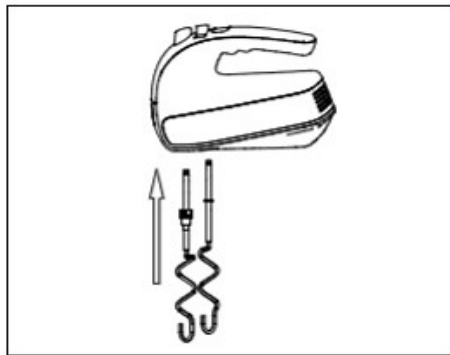

Fig. 5
- Insert beaters or dough hooks into the correct outlets and ensure the beaters or Dough hooks are securely locked and in their position as shown in Fig. 5, then you can use the mixer unit manually.